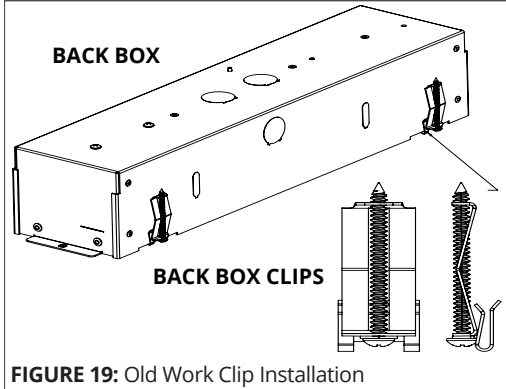

FIGURE 19: Old Work Clip Installation
2. Attach Old Work Clips: Locate the 4 notches on the back-box. Attach the provided old work clips to these notches. [FIGURE 19]